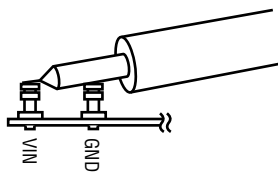

Figure 2. Measuring Input or Output Ripple
NOTE: When measuring the input or output voltage ripple, care must be taken to avoid a long ground lead on the oscilloscope probe. Measure the input or output voltage ripple by touching the probe tip directly across the  $V_{IN}$  or  $V_{OUT}$  and GND terminals. See the proper scope probe technique in figure 2.
5. Set the load current of both outputs to 3A and the input voltages to 20V, and then measure each output ripple voltage (refer to figure 2 for proper measurement technique); they should each measure less than 30mVAC. Also, observe the voltage waveform at either switch node (pins 23 & 24 for reg.1 and 13 & 14 for reg.2) of each regulator. The switching frequencies should be between 800kHz and 1.2MHz ( $T = 1.25 \mu$ s and 0.833 $\mu$ s). To realize 2MHz operation, change the shunt position on header JP14. In all cases, both switch node waveforms should be rectangular in shape, and 180° out-of-phase with each other. Change the shunt position on header JP11 to set the switch waveforms in phase with respect to each other. To operate the ckt.s in Burst Mode, change the shunt in header JP8 to the Burst Mode position. When finished, insert shunts XJP1 and XJP2 to the OFF position(s) and disconnect the power.